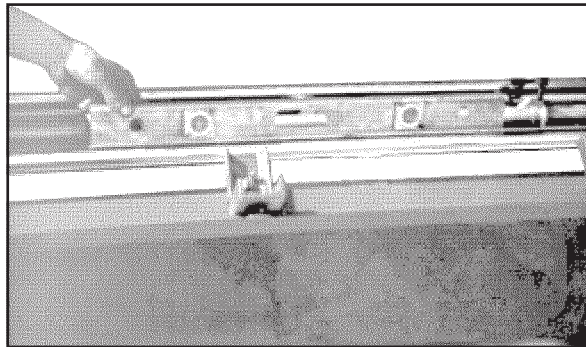

Figure 2.6 Level along track shafts
2.2.3 Place the carpenters level along one of the track shafts and adjust until level as shown in Figure 2.6.